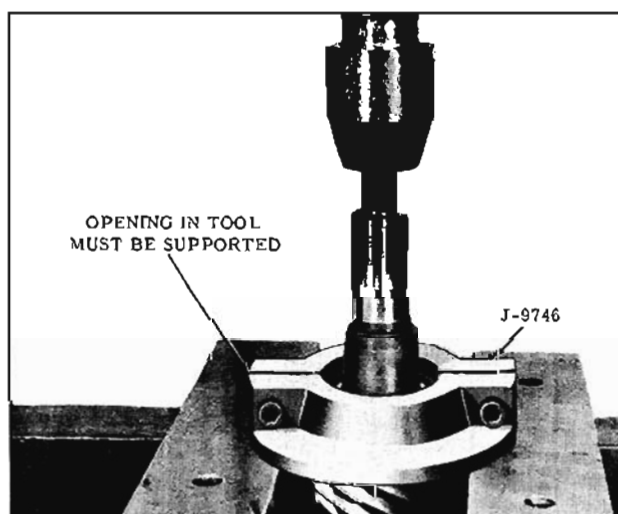

Fig. 10-25 Removing Rear Bearing
10. If the rear pinion bearing or shims are to be replaced, use an arbor press as shown in Fig. 10-25 to press the rear bearing inner race and roller assembly off the pinion shaft.